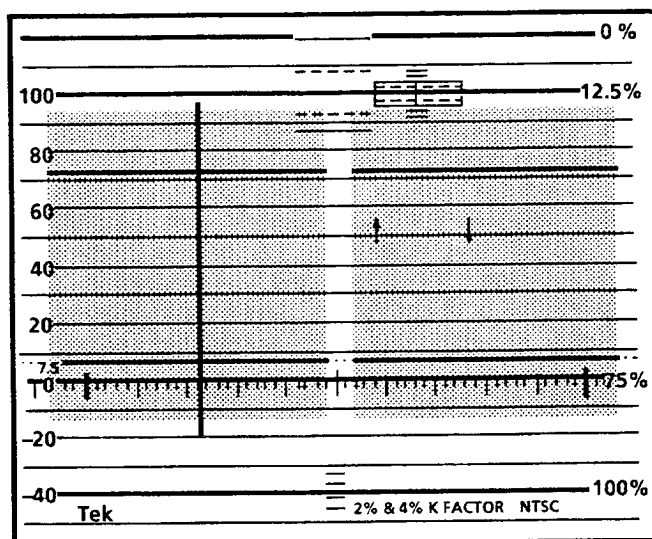

Figure 1-12: 2 Field display with intensified line in the first displayed field
- b. Push the sweep button and observe the 2FLD Sweep with an intensified line at the mid point of one of the fields. See Figure 1-12.